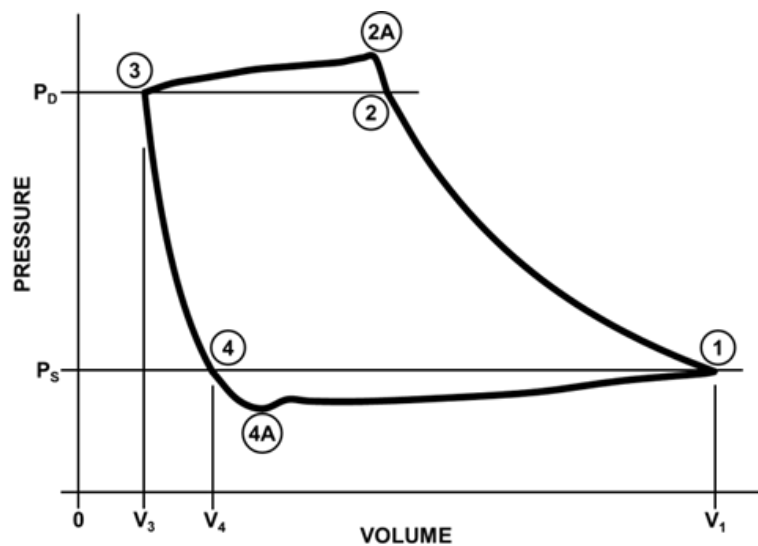
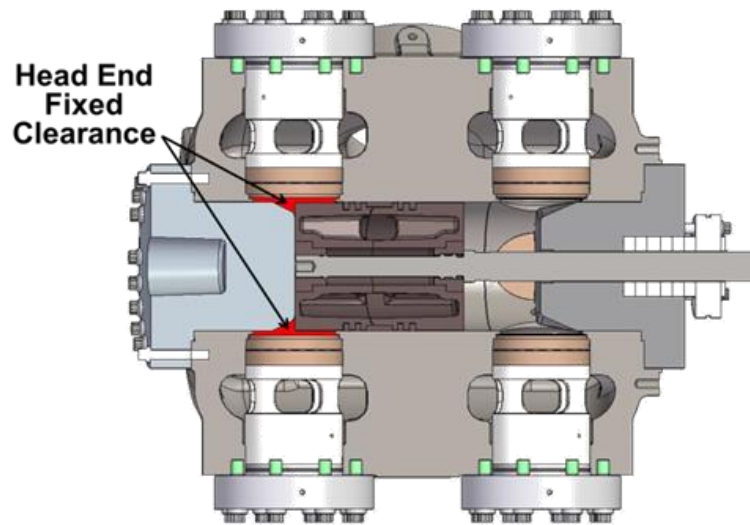

Figure 1
Figure 2
A reciprocating compressor is a fairly simple machine and easy to understand the basic mechanics. This tutorial focuses on what occurs in the compression chamber of a compressor cylinder, and more specifically on the P-V diagram (Figure 1). How much gas is compressed and how much power is required for that compression are both derived directly from the P-V diagram. Hence, understanding the P-V diagram is critically important and forms the foundation for a deeper understanding for how a reciprocating compressor works.
A reciprocating compressor is a positive displacement machine in that a volume of gas is drawn into a compressor cylinder's compression chamber where it is trapped, compressed and pushed out. The P-V diagram is a plot of the pressure of the gas versus the volume of the gas trapped in the compression chamber. In Figure 1, P_s , suction pressure, represents the pressure of the gas at the inlet to the compressor cylinder. P_d , discharge pressure, represents the pressure of the gas at the outlet from the compressor cylinder. V_1 represents the maximum volume of gas trapped in the compression chamber and V_3 the minimum. The difference between V_1 and V_3 is known as piston displacement, or how much volume is displaced in one stroke length of the piston:
Referring to Figure 1, the P-V diagram is made up of four basic segments or events, 1-2, 2-2A-3, 3-4, and 4-4A-1, and each will be explained. Position 1 has the maximum volume (V_1) of gas trapped in the compression chamber and that gas is at suction pressure and temperature. At Position 1 all of the compressor valves are closed and the piston is at rest. All of the compressor valves are simple spring-loaded check valves and are not actuated by any outside means. As the crankshaft rotates the piston will move and the volume inside the compression chamber decreases (moving from Position 1 to 2). From Position 1, as the volume decreases, the gas pressure increases (the gas is trapped in the compression chamber with the volume decreasing). When the pressure inside the compression chamber becomes slightly higher than discharge pressure (P_d , at position 2), the discharge compressor valve will open. This completes the first segment of the diagram and is called the compression event.
The fixed clearance volume (V_3 in Figure 1) is the volume of gas remaining in the compression chamber at the discharge end of the stroke that must expand from discharge pressure (P_D) to suction pressure (P_S) before the suction compressor valve can open and the suction event begin. Figure 2 is a cross-section of a typical compressor cylinder assembly with some of the fixed clearance volume highlighted in red.
Fixed clearance (CL) is expressed as a percentage of the piston displacement (referring to Figure 1):
Volumetric efficiency (VE) is the percentage of stroke that fills with gas at suction pressure and suction temperature. In equation form (referring to Figure 1):
The compression and expansion events are modeled thermodynamically as adiabatic processes, meaning it is assumed that no heat is transferred to or from the gas during these events. An adiabatic thermodynamic process is an isentropic (constant entropy) process. The area of the P-V diagram in Figure 1 bounded by 1-2-3-4-1 is the adiabatic power.